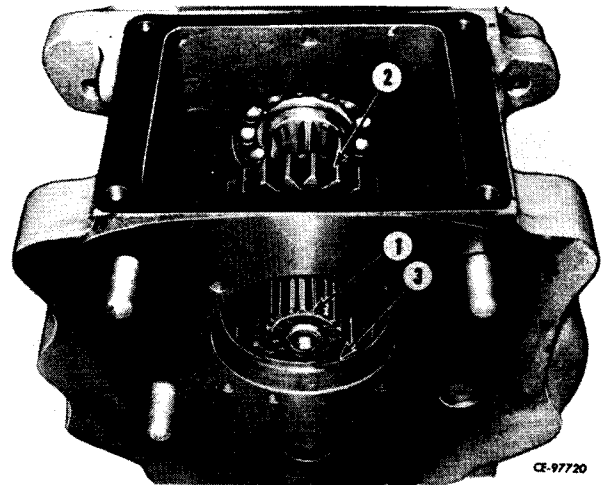

Figure 4-68
Position main transmission housing and reverse housing together using a new gasket between. Install and tighten cap screws and lock washers securing housings. Install main shaft reverse gear (2, Fig. 4-68) and roller bearing (1) on end of main shaft. Install snap ring (3).